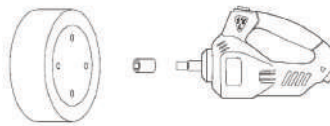

Figure1
3. Choose the proper socket to attach to the wrench's shaft (check Figure1).